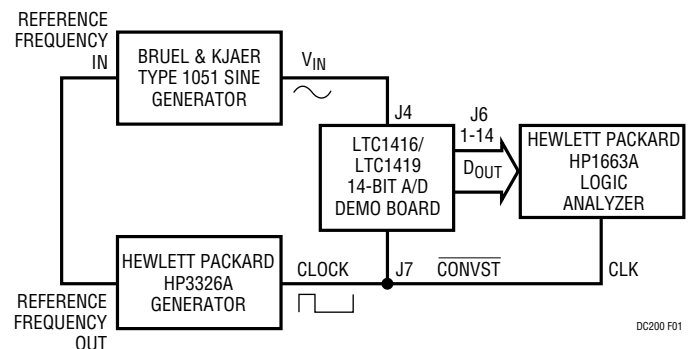

Figure 1. Typical Setup for LTC1419 Demo Board
1. Connect a -7V to -15V supply (J1), 7V to 15V supply (J3), 0V or ground (J2), input test signal generator (J4) and conversion clock source (J7) to the board as shown in Figure 1. As delivered, the board is configured for a $\pm 2.5V$ input referenced to ground (JP2 and JP4 are shorted). Differential inputs can be converted by removing the shorting connector on JP4. The demonstration board also includes an LT1363 input buffer amplifier operating with a gain of 1. The input signal can be buffered by removing the shorting connector from JP2 and placing it on JP3.
Optimum performance is achieved using a signal source that has low output impedance, is low noise and has low distortion. Signal generators, such as the B & K Type 1051 Sine Generator, give excellent results. Further, this generator can be configured to operate referenced to a master clock signal, as shown in Figure 1.